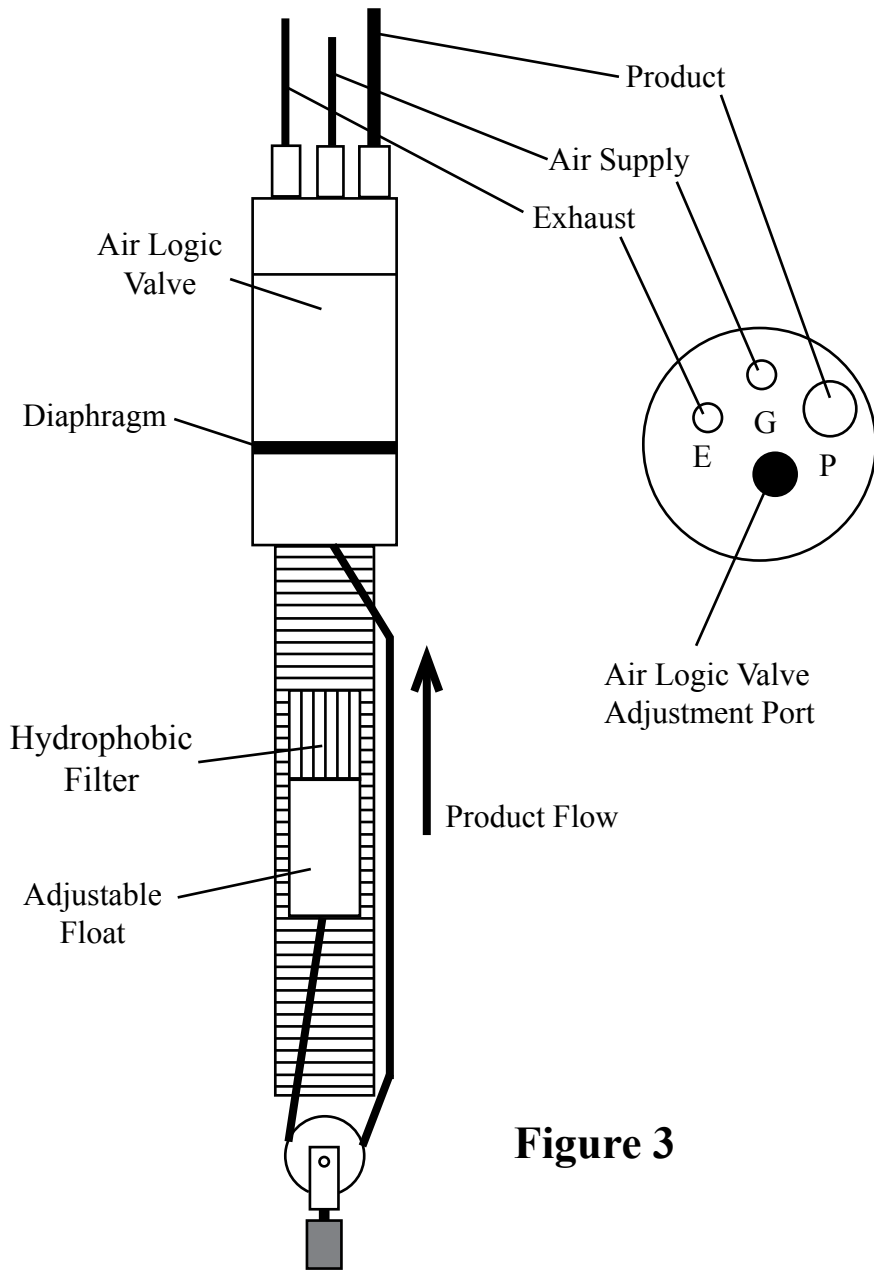

Figure 3
The system (Figures 1 and 2) relates to a floating LNAPL recovery system for wells four inches in diameter and larger. This system includes: an intrinsically safe ADJ1015L pneumatic Smart Skimmer, with an adjustable float (Figure 3), which removes LNAPL up to 200 feet deep; and a two function electronic Class I Controller Model 2550ES for hazardous locations which operates the skimmer intermittently, and has a high level tank shutoff.
STEP 7. Position the skimmer and well cap on the ground near the well. **NOTE:** If the skimmer is over 60 feet deep, use a vented design skimmer. Cut a length of 3/8" OD air supply tubing to cover the distance from the top of the well down to water/product interface, plus 5 feet. Slide enough tubing through the well cap and attach the end of the tubing to the top of the skimmer tube fitting labeled "G" (Figure 3). If the product thickness is greater than 1 foot, position the center of the skimmer screen 1 foot below top of product. If the product thickness is less than 1 foot, position the center of the skimmer screen at the water/product interface.
STEP 8. Cut a length of 1/2" OD product tubing same length as the air supply line. Install 1/2" OD product tubing through the well cap tube fitting labeled "P" (Figure 3). Slide enough tubing through the well cap and attach the end of the tubing to the top of the skimmer tube fitting labeled "P". **CAUTION:** Do not kink the tubing.